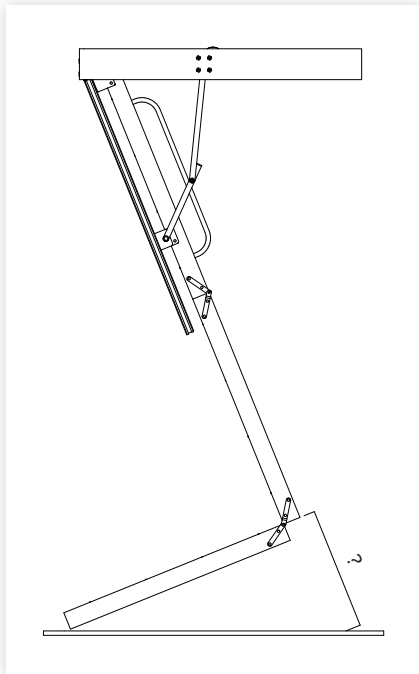

figure 10
1. With the top and middle sections of the ladder open and the bottom section tucked in behind, measure the distance from the bottom of the middle section, to the floor at the same angle as the ladder (figure 10). Do this on both sides.
2. Once you have determined the length of '?' (figure 10) deduct the following: